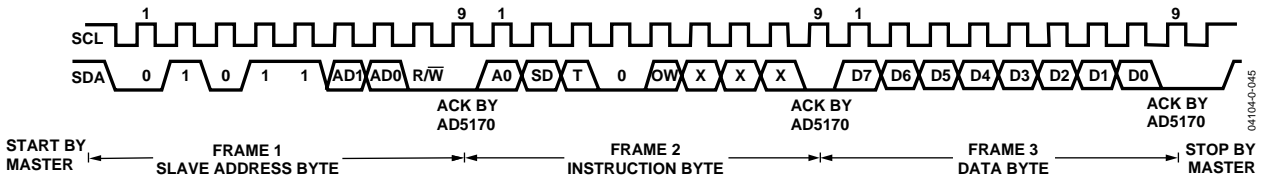
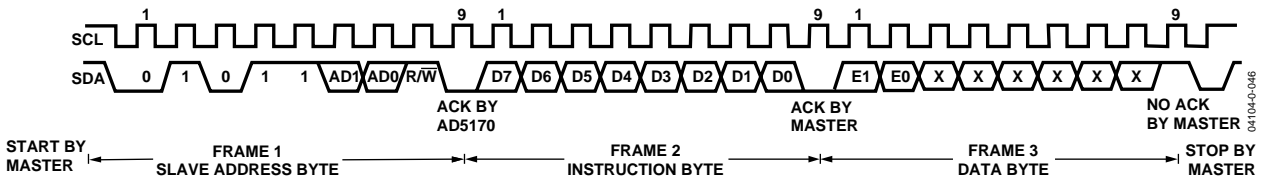

Figure 45. Writing to the RDAC Register
Figure 46. Reading Data from the RDAC Register
1. The master initiates data transfer by establishing a START condition, which is when a high-to-low transition on the SDA line occurs while SCL is high (see Figure 45). The following byte is the slave address byte, which consists of the slave address followed by an R/W bit (this bit determines whether data is read from, or written to, the slave device). AD0 and AD1 are configurable address bits which allow up to four devices on one bus (see Table 7).
The remainder of the bits in the instruction byte are Don't Care bits (see Figure 45).
3. In the read mode, the data byte follows immediately after the acknowledgment of the slave address byte. Data is transmitted over the serial bus in sequences of nine clock pulses (a slight difference from the write mode, with eight data bits followed by an Acknowledge bit). Similarly, the transitions on the SDA line must occur during the low period of SCL and remain stable during the high period of SCL (see Figure 46).
Following the data byte, the validation byte contains two validation bits, E0 and E1. These bits signify the status of the one-time programming (see Figure 46).
4. After all data bits have been read or written, a STOP condition is established by the master. A STOP condition is defined as a low-to-high transition on the SDA line while SCL is high. In write mode, the master pulls the SDA line high during the 10th clock pulse to establish a STOP condition (see Figure 45). In read mode, the master issues a No Acknowledge for the 9th clock pulse (i.e., the SDA line remains high). The master then brings the SDA line low before the 10th clock pulse, which goes high to establish a STOP condition (see Figure 46).